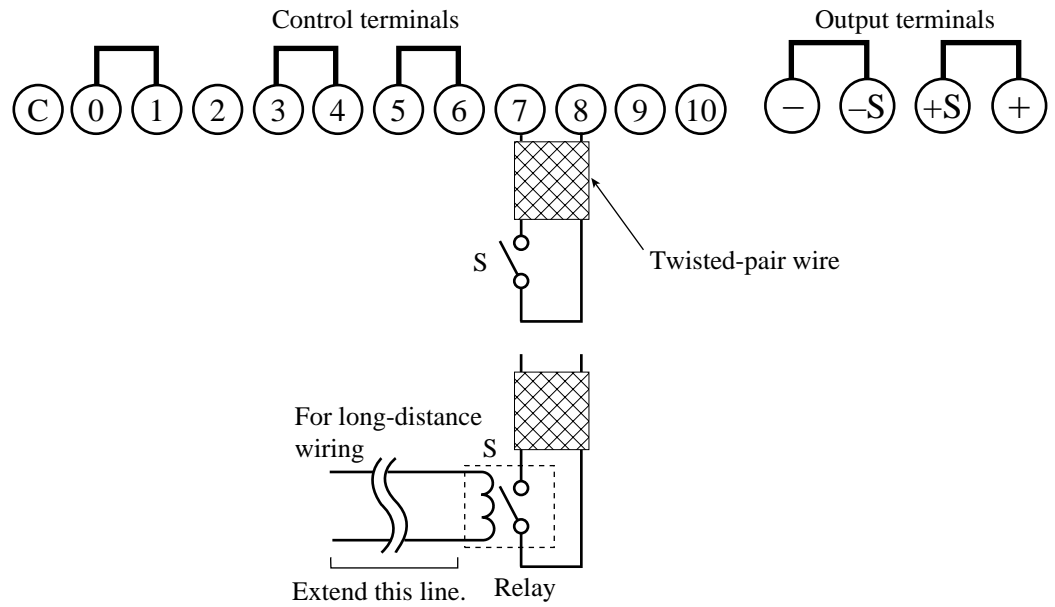

Fig. 4-18 Connection for shutting off the POWER switch
2. Connect a contact S (switch) across the control terminal 7 and 8 as shown in Fig. 4-18.